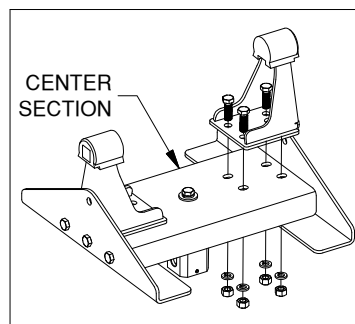
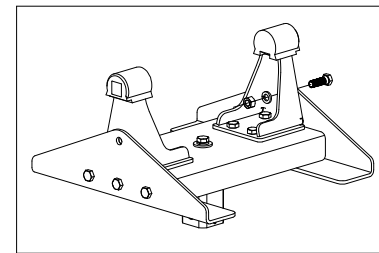

FIGURE A3: View of center section and pivot arm.
FIGURE A4: View of center section and pivot arm.
2. With the remaining ten 1/2" cap screws, 1/2" split lock washers and, 1/2" nuts, attach the pivot arms to the base. Start by passing four cap screws through the top of a pivot arm down through the base and hand tighten with split lock washers and nuts as shown in figure A3. Next, pass a single 1/2" cap screw through the side of the pivot arm and hand tighten with a split lock washer and nut as shown in figure A4. Repeat these steps for the pivot arm on the other side of the center section. Torque each bolt to 110 ft-lbs.